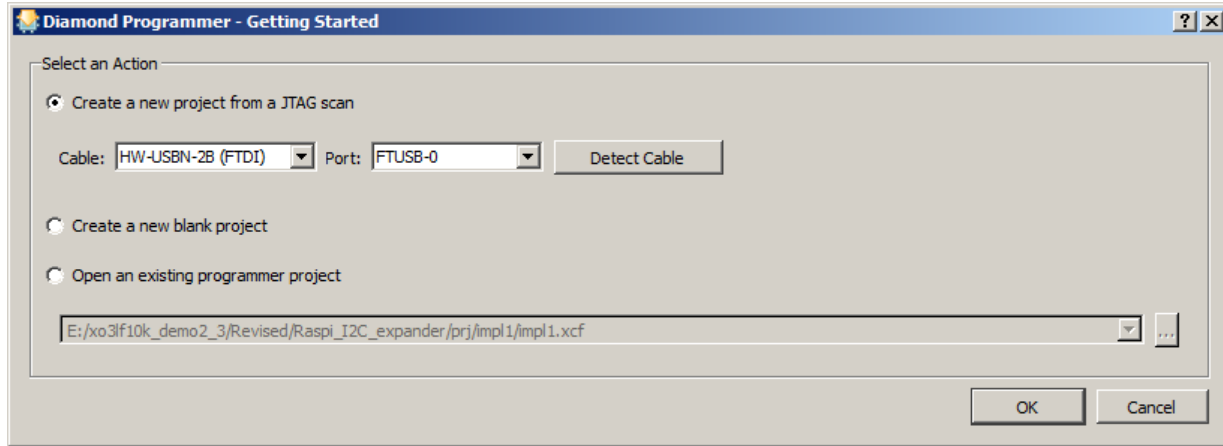

Figure 6.1. Diamond Programmer Getting Started Page
1. Launch the Diamond Programmer Software (version 3.9 or above). In the Getting Started dialog box as shown in Figure 6.1, select **Create a new project file from JTAG scan** and click **OK**.